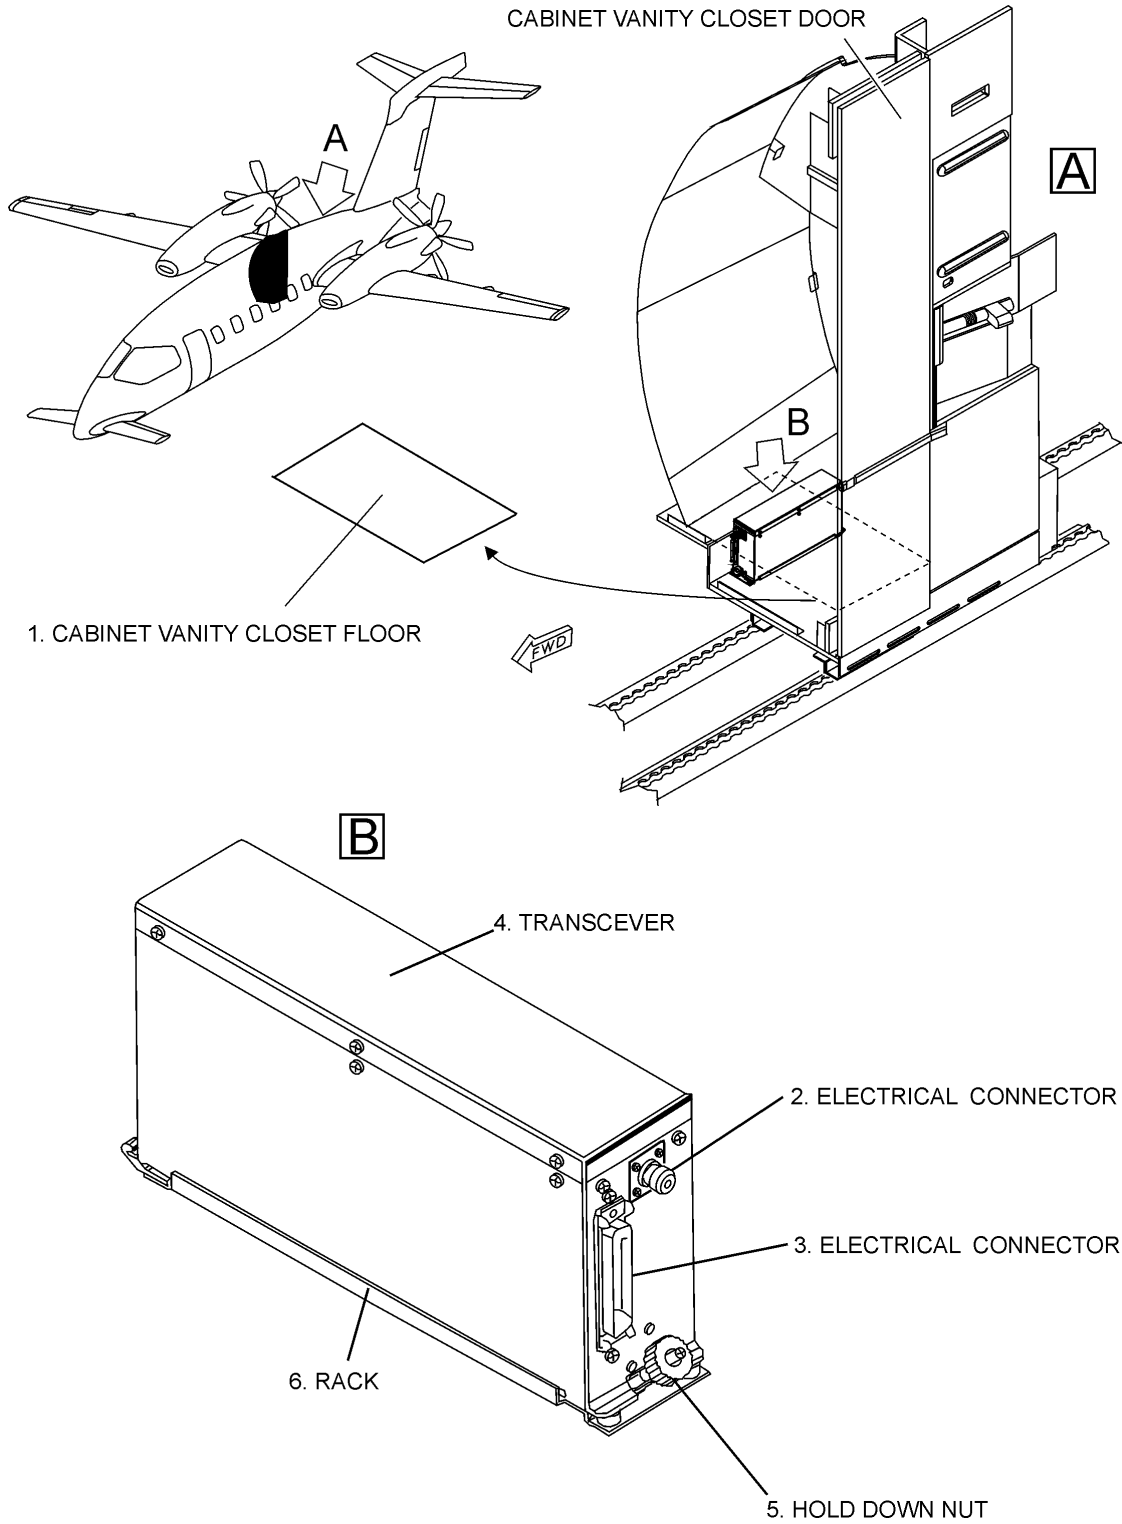

Fig. 201 - UHF/AM - Transceiver - Removal/Installation
2. UHF/AM Transceiver - Removal(Ref. Fig. 201)
3. UHF/AM Transceivers - Installation(Ref. Fig. 201)